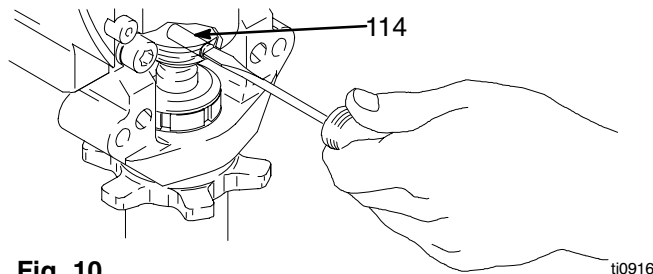

Fig. 10
3. Fig. 10. Use screwdriver: push retaining spring up and push out pin.
2. Fig. 10. Push pin (21) into hole. And push retaining spring into groove all the way around connecting rod.